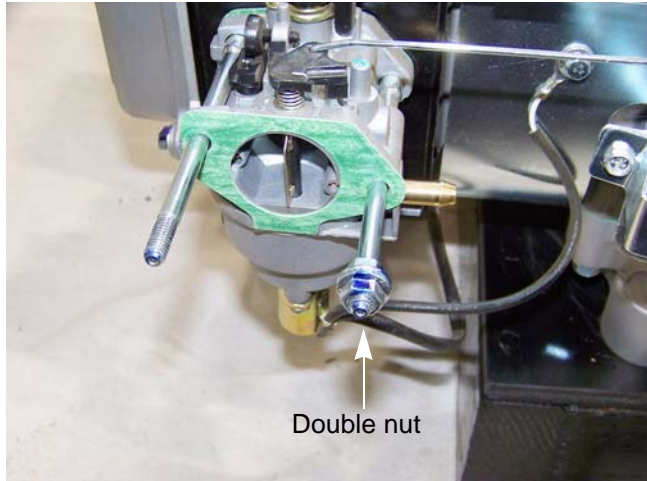

Figure 3.10
6. Double nut the carburetor studs and remove them. See Figure 3.10.